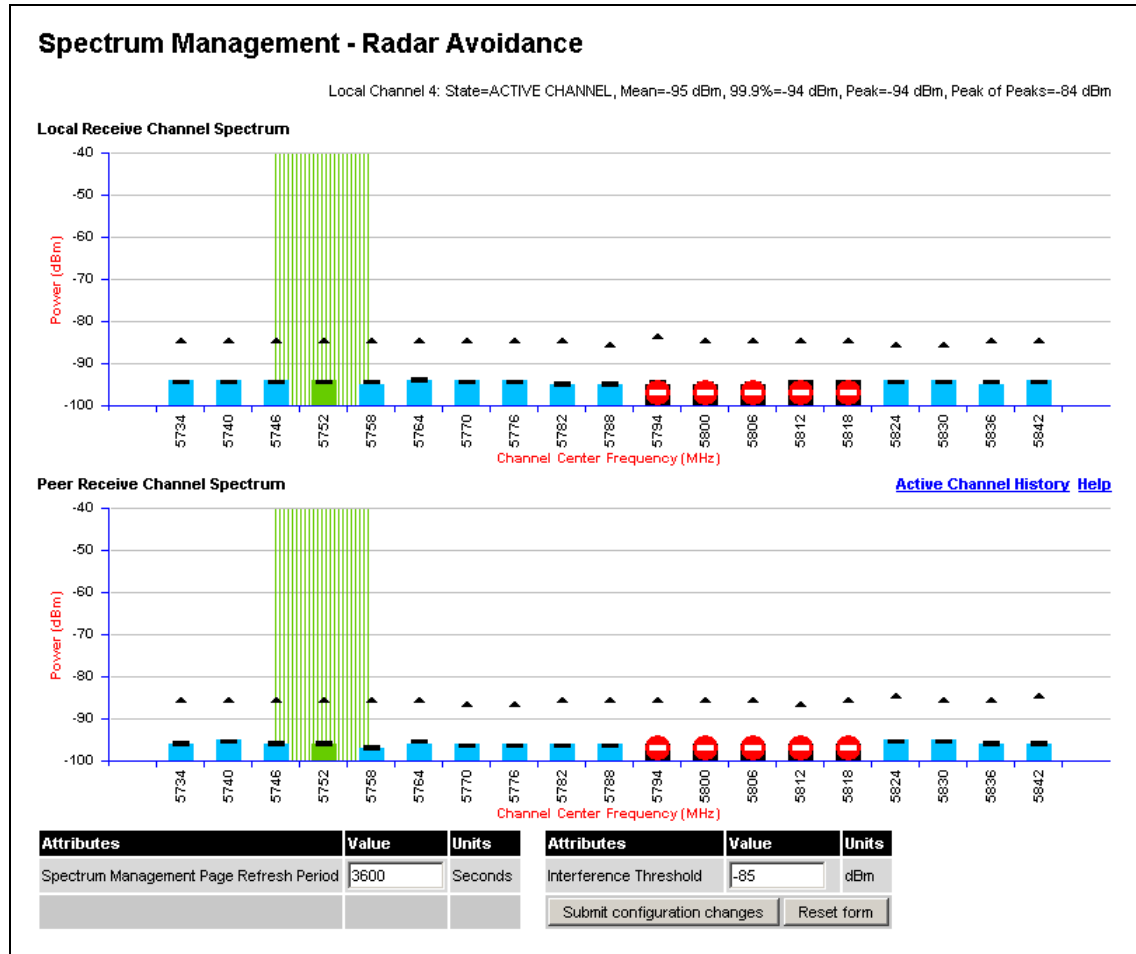
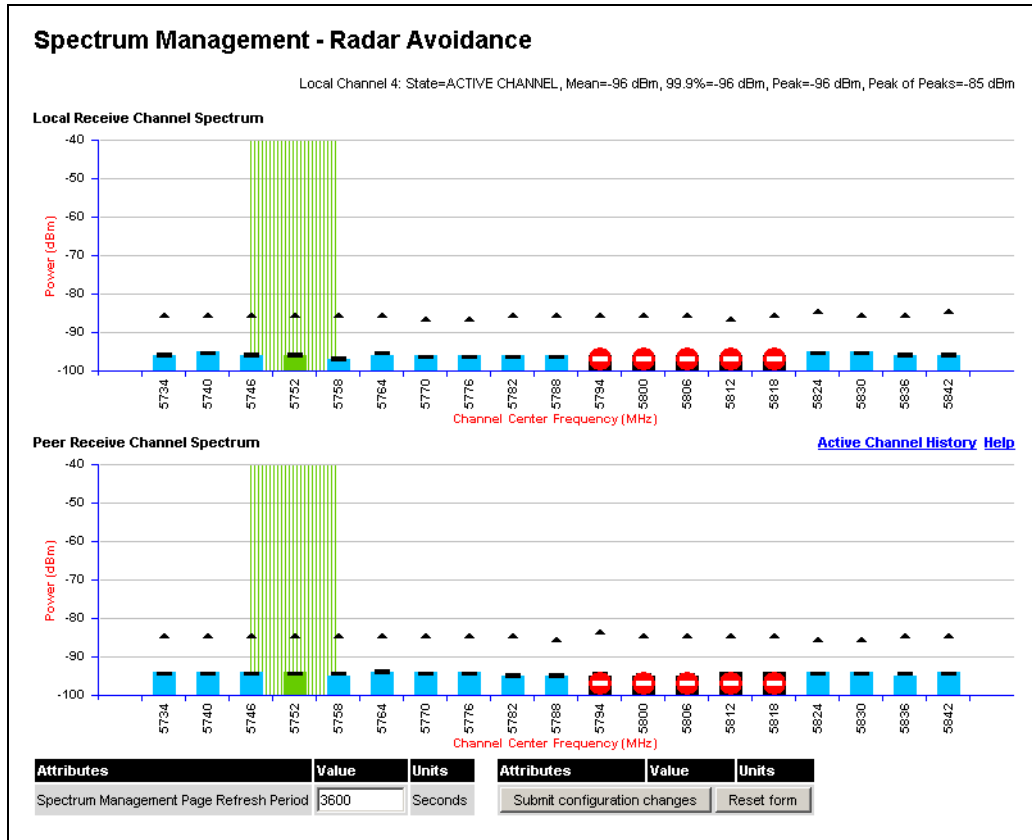

Figure 64 - Spectrum Management Master Screen with Operational Restrictions
Figure 65 - Spectrum Management Slave Screen with Operational Restrictions
- The words “Radar Avoidance” are appended to the “Spectrum Management” title at the top of the screen. See Figure 64 and Figure 65.
- The only controls available to the master are the Interference Threshold attribute. This has no affect on the operation of the wireless link and will only affect the generation of the channel spectrum graphics. See Figure 64.
- A channels marked with a 'no entry' symbol with their associated statistics colored black are the prohibited channels. See Figure 64 and Figure 65. These channels are never used to host the wireless link, but interference measurements are still taken so that adjacent channel biases can be calculated correctly and so the user can see if other equipment is in use.